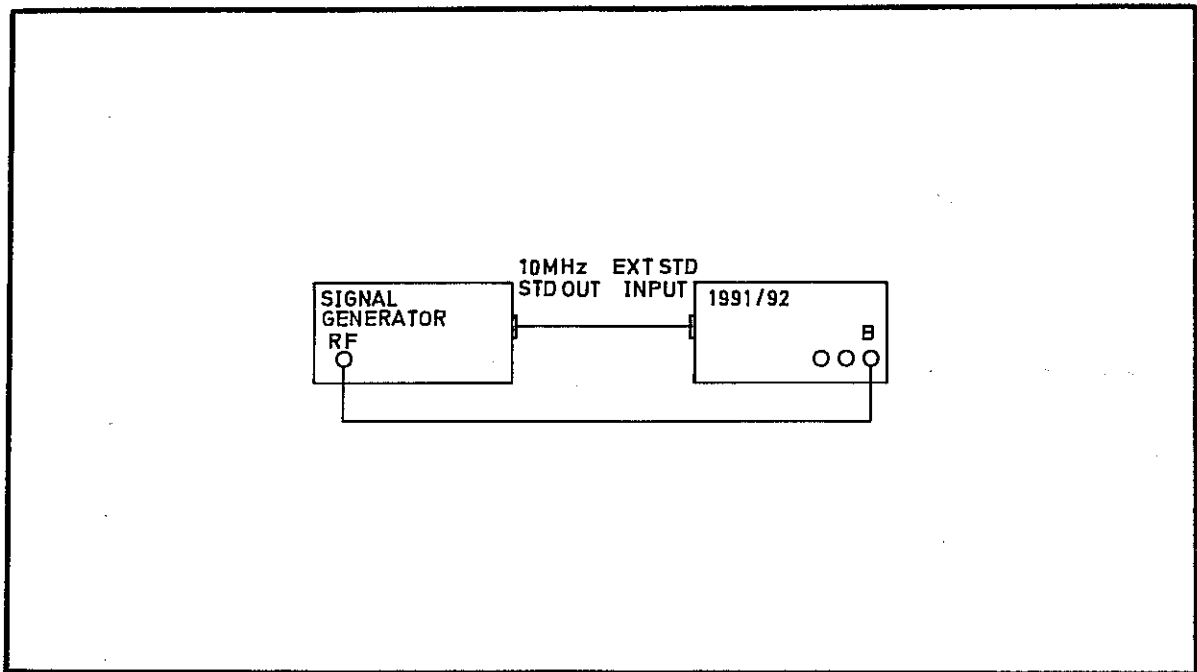

Fig 7.12 Connections for Channel B Input System Adjustment
- 34 (1) Switch the 1991/92 on. Select FREQ A.
- (2) Select 50  $\Omega$  impedance for channel B, and press
- (3) Press the RESOLUTION  $\downarrow$  key five times, until 000 is displayed.
- (4) Connect the test equipment as shown in Fig 7.12.
- (5) Set the signal generator output to 100 MHz at a level of 3.0 mV r.m.s.
- (6) Verify that the EXT STD indicator is lit, and that the channel B TRIG indicator is flashing.
- (7) Adjust R193 to obtain the most stable display indication of 100.0 6  $\pm$  0.1 6, with the GATE indicator flashing.